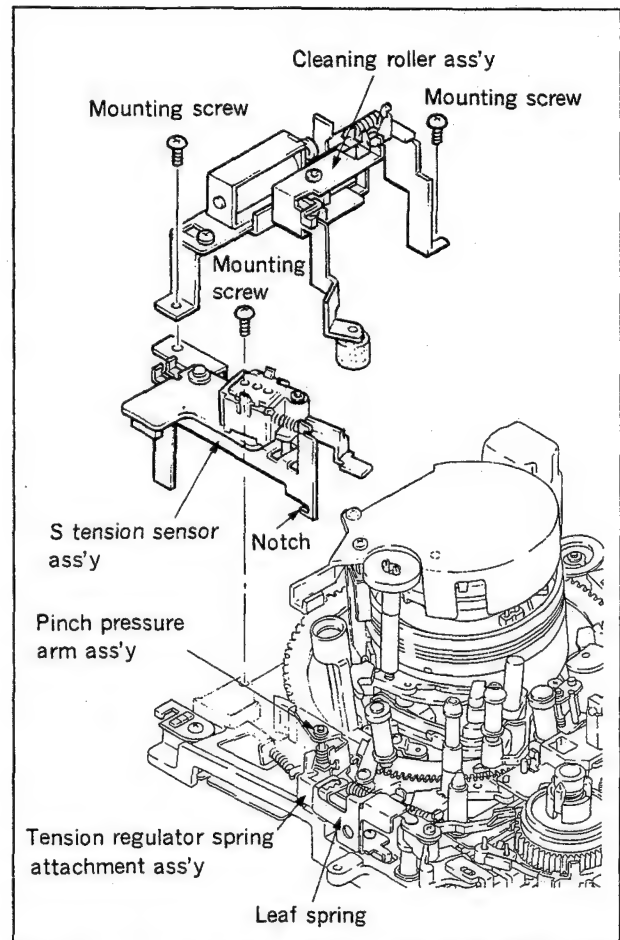

Fig. 4-16-2 Removing the cleaning roller ass'y and the S tension sensor ass'y
1. Cleaning roller ass'y removal (Fig. 4-16-2)
2. S tension sensor ass'y removal (Fig. 4-16-2)